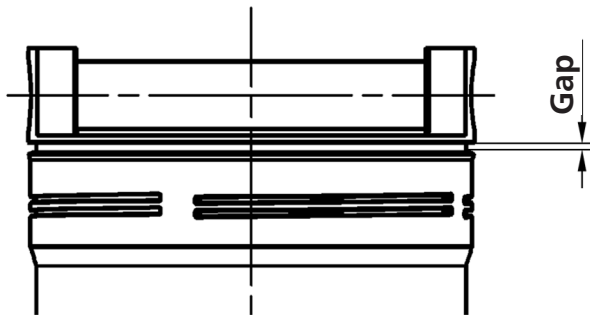

Fig. 4: Gap between cover and housing
- › The cover of the filter housing must be properly closed. If necessary, turn the cover by hand as far as it will go; there may be a gap that remains visible between the cover and the housing (see Fig. 4)